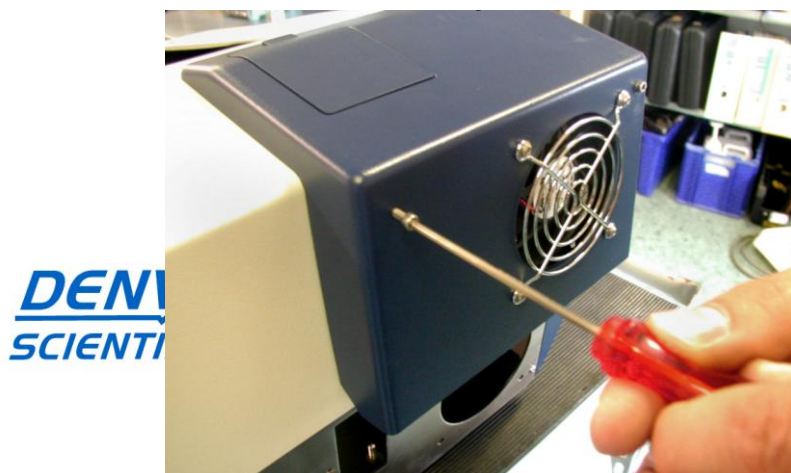

Figure 3-2. Removing the allen screws
2. Remove the two Allen screws on the back of the instrument that secure the lamp housing cover in place (Figure 3-2).